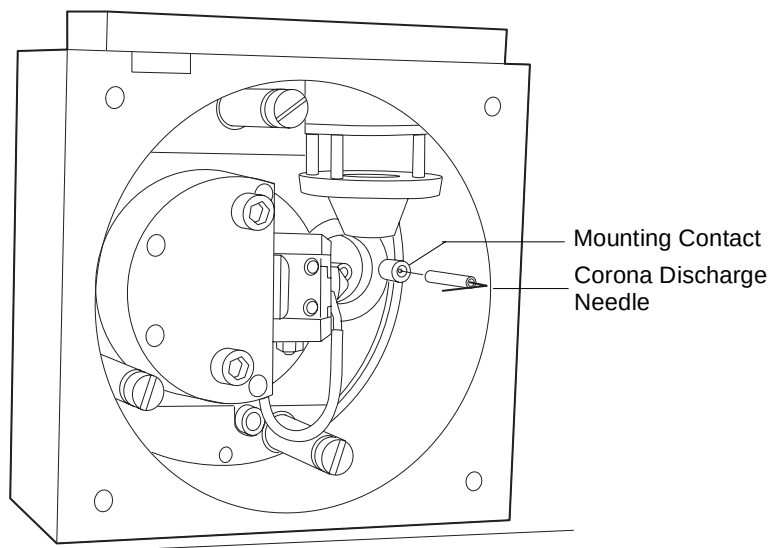

Figure A-2 Installing the Corona Needle
5. Install the corona discharge needle on the mounting contact, orienting its tip toward the sample cone (Figure A-2).